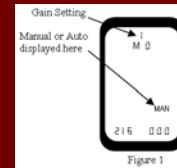

Figure 1
- Manual is the suggested mode for programming. If the unit is in "AUTO", press **ENTER** to switch to "MAN" (see Figure 1).
- The first memory slot will be "0". Press the **Λ** or **V** button until the desired memory slot is displayed. Press **ENTER** to save. The screen will return to the original view (see Figure 1).